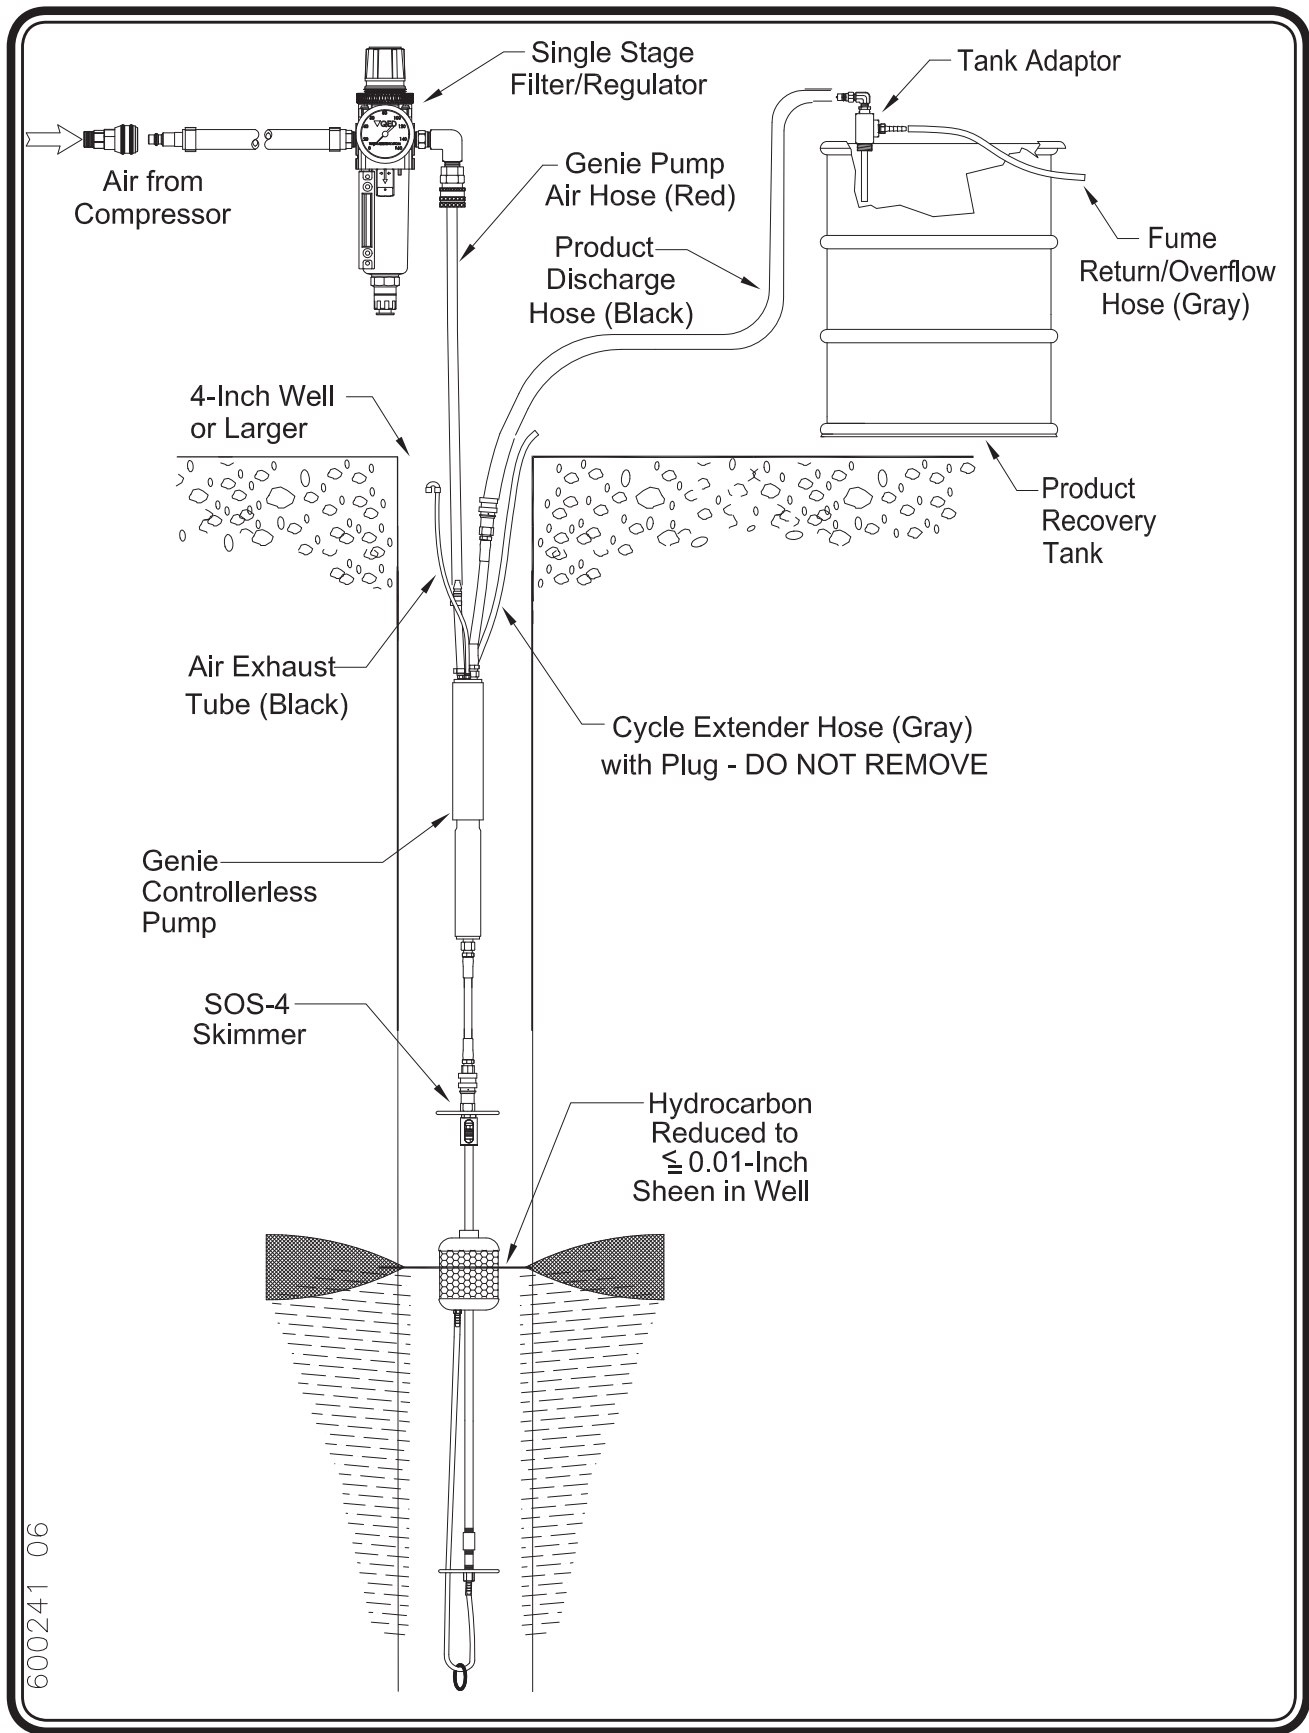

Figure 19 - Genie System with Floating Intake Skimmer (for Product Only)
- a. Attach the male fitting of the Genie pump air hose to the single stage filter/regulator. **(See Figure 19)**
- a. Push the air exhaust tubing into the red-collared tubing fitting on the pump. **(See Figure 19)**
- a. Thread the tank adapter into a 3/4 inch NPT fitting on the top of the product recovery tank. **(See Figure 19)**
- a. Attach the fume return/overflow hose to the tank adapter via hose barb and clamp. **(See Figure 19)**
- a. Attach the female fitting of the product discharge hose to the tank adapter in the product recovery tank. **(See Figure 19)**
- c. Attach the socket on the discharge end of the hose to the single stage filter. **(See Figure 19)**
(See Figure 19)